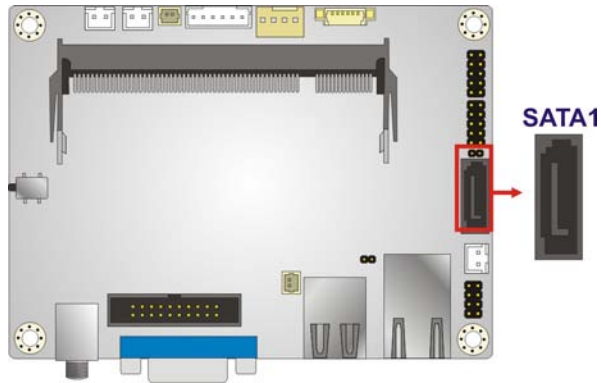

Figure 3-17: SATA 3Gb/s Drive Connector Location
- CN Location: See **Figure 3-17**